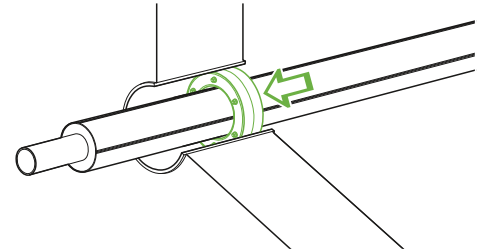

Fig. B6.6
6. Position the Wall Compression Seal level with the outside face of the wall (Fig. B6.6).